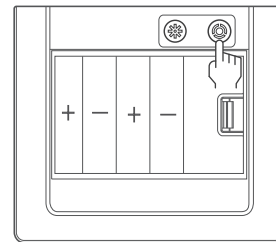

Figure 6
1. As shown in Figure 6, long press the black safe mode button '⊗' for 3 seconds. There will be a voice prompt 'Shake alarm opened', indicating successful operation. Long press it for another 3 seconds can turn the 'Vibration alert' off.